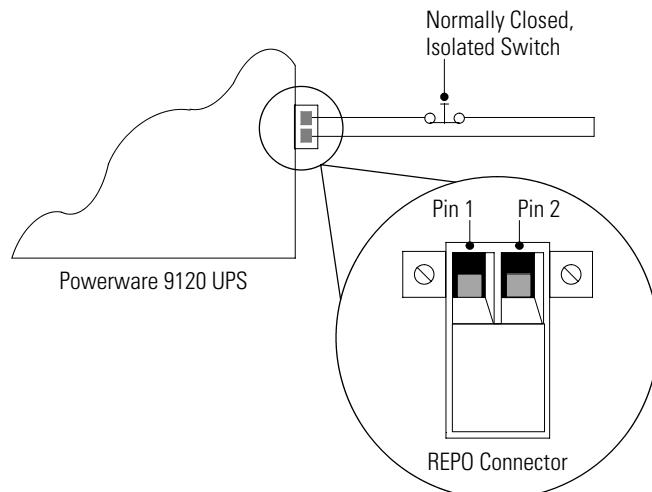

Figure 16. REPO Wiring Diagram
4. Connect isolated, normally-closed, dry contacts (rated at 60 Vdc maximum, 30 Vac RMS maximum, and 20 mA maximum) across the REPO device to Pin 1 and Pin 2. Use stranded, non-shielded wiring, size 18–22 AWG (0.75 mm²–0 mm²). See Figure 16.